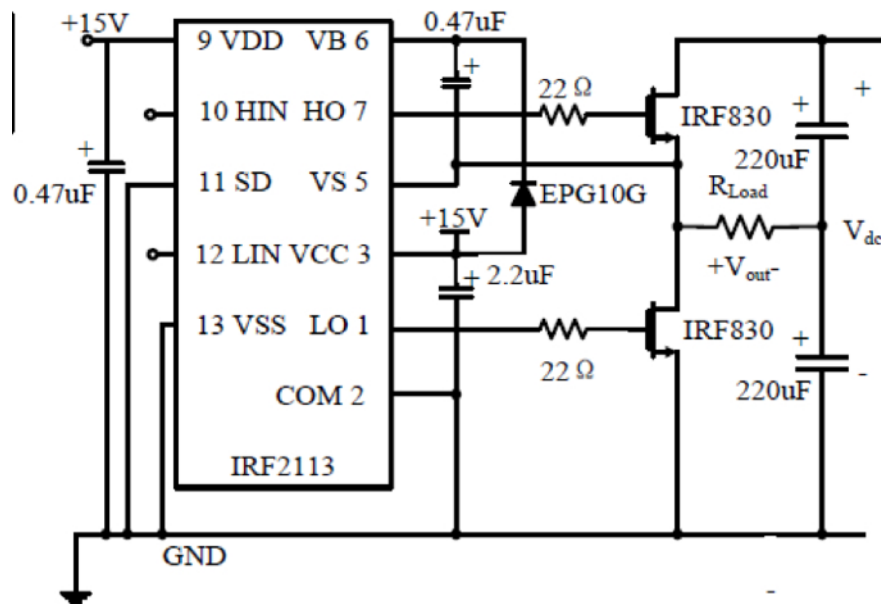

Figure 1: Half-Bridge Setup
2. Build the circuit shown in Fig 1.